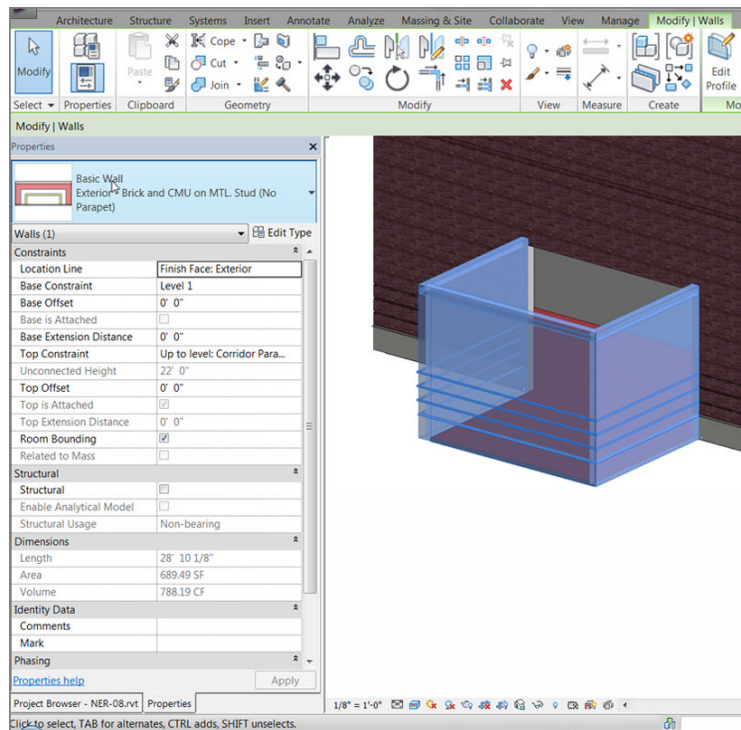

FIGURE 7.46: Changing the wall types as you have been doing all along
2. Select the three walls that compose the jog in the south wall (see Figure 7.46).
3. From the Properties dialog box, switch these walls to Exterior - Brick And CMU On MTL. Stud (No Parapet), as shown in Figure 7.46.